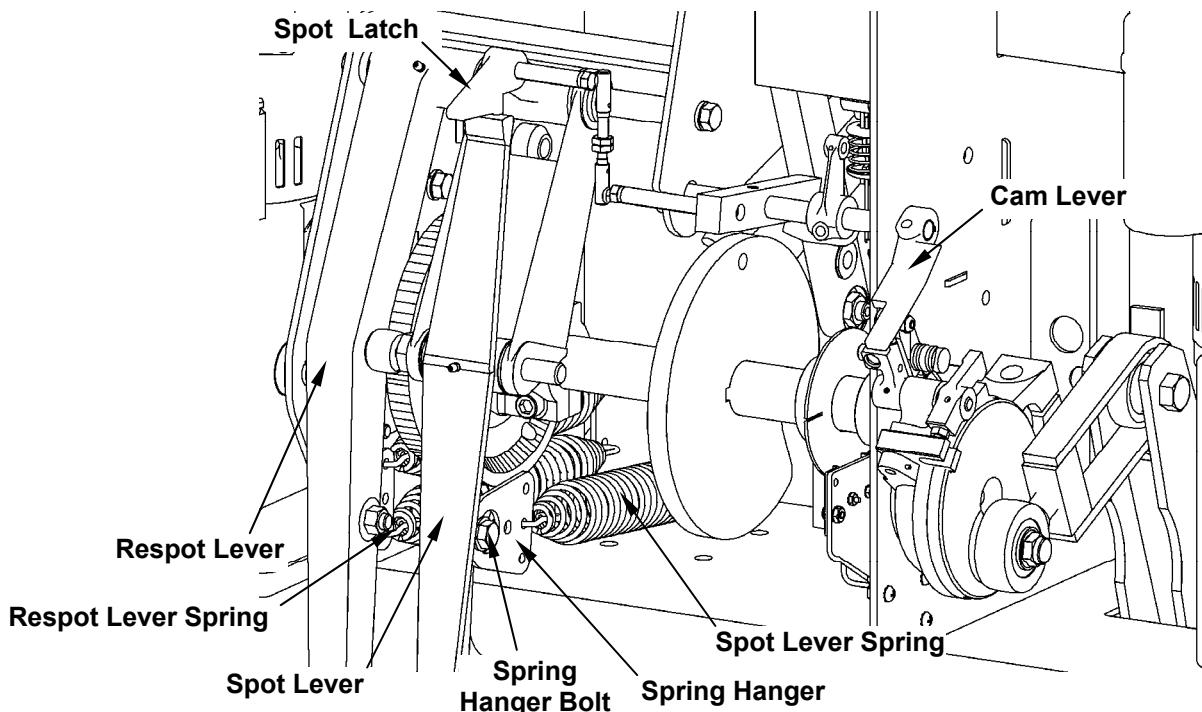

Figure 4.2-16
1. Hold the cam lever down on the table drive eccentric while holding the spot latch up (see Figure 4.2-16) and have a second person manually crank the table down.
2. Loosen the nut on the spring hanger bolt (see Figure 4.2-16) so that it is being held by just one or two threads.